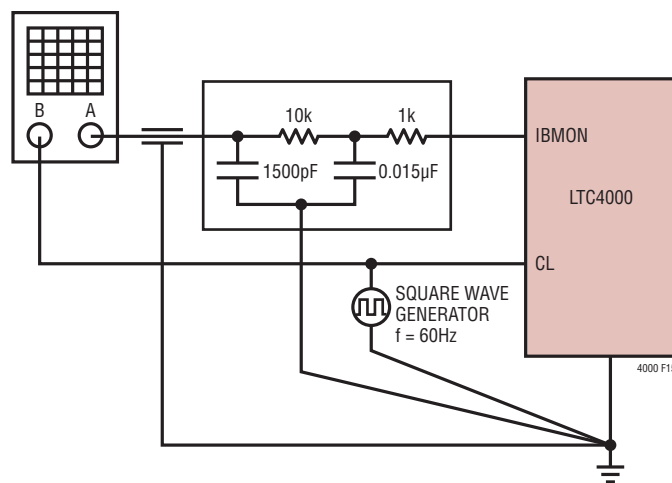

Figure 15. Charge Current Regulation Loop Compensation Setup
- For compensation, the procedure described in the empirical loop compensation section is followed. As recommended, first a  $1\mu\text{F}$   $C_C$  and 10k  $R_C$  is used, which sets all the loops to be stable. For an example of typical transient responses, the charge current regulation loop when  $V_{\text{OFB}}$  is regulated to  $V_{\text{OUT(INST\_ON)}}$  is used here. Figure 15 shows the recommended setup to inject a DC-coupled charge current variation into this particular loop. The input to the CL pin is a square wave at 70Hz with the low level set at 120mV and the high level set at 130mV, corresponding to a 1.2A and 1.3A charge current (100mA charge current step). Therefore, in this particular example the trickle charge current regulation stability is examined. Note that the nominal trickle charge current in this example is programmed at 1.25A ( $R_{\text{CL}} = 24.9\text{k}\Omega$ ).